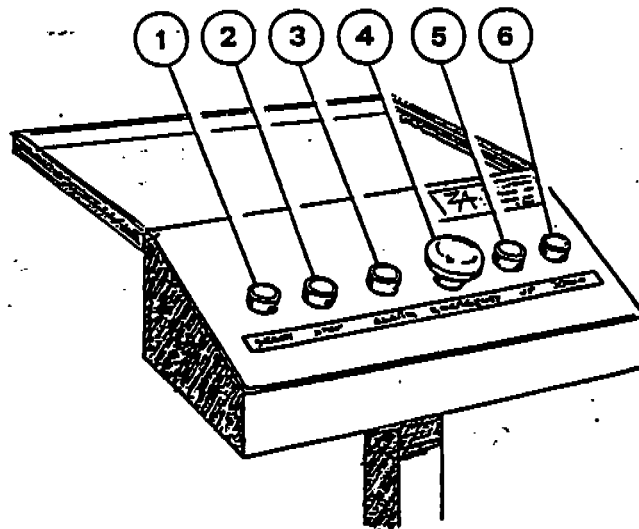

Fig. 4
1.1 - Pushbutton panel (Fig. 4)
1.1 - Pulsantiera (Fig. 4)